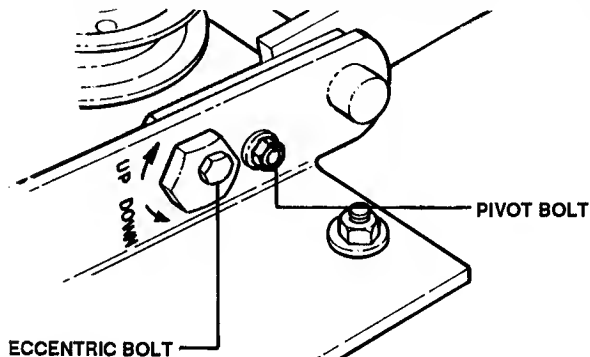

FIGURE 28
9. Loosen nuts on eccentric bolt and pivot bolt and level the deck side to side by turning the eccentric adjusting bolt (see Figure 28). The distance from floor to each blade tip should be within 1/8" of each other.